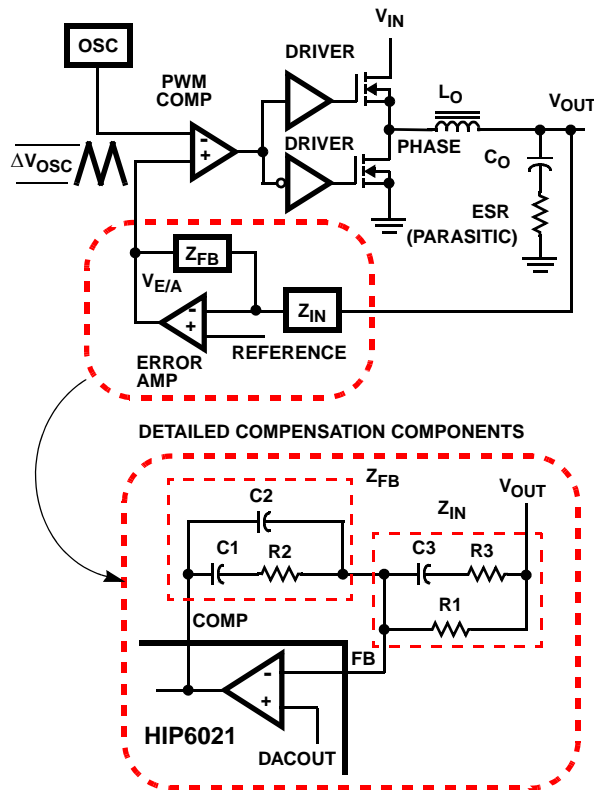
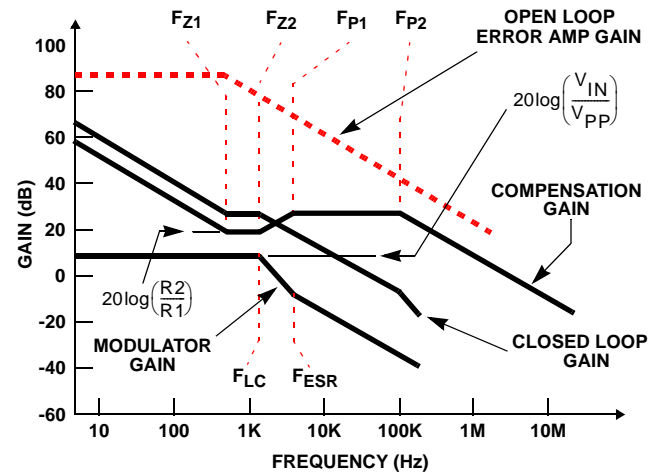

FIGURE 9. VOLTAGE-MODE BUCK CONVERTER COMPENSATION DESIGN
FIGURE 10. ASYMPTOTIC BODE PLOT OF CONVERTER GAIN
Figure 9 highlights the voltage-mode control loop for a synchronous-rectified buck converter. The output voltage (V_{OUT}) is regulated to the Reference voltage level. The reference voltage level is the DAC output voltage (DACOUT). The error amplifier (Error Amp) output (V_{E/A}) is compared with the oscillator (OSC) triangular wave to provide a pulse-width modulated (PWM) wave with an amplitude of V_{IN} at the PHASE node. The PWM wave is smoothed by the output filter (L_O and C_O).
Figure 10 shows an asymptotic plot of the DC-DC converter's gain vs. frequency. The actual Modulator Gain has a high gain peak dependent on the quality factor (Q) of the output filter, which is not shown in Figure 9. Using the above guidelines should yield a Compensation Gain similar to the curve plotted. The open loop error amplifier gain bounds the compensation gain. Check the compensation gain at F_{P2} with the capabilities of the error amplifier. The Closed Loop Gain is constructed on the log-log graph of Figure 10 by adding the Modulator Gain (in dB) to the Compensation Gain (in dB). This is equivalent to multiplying the modulator transfer function to the compensation transfer function and plotting the gain.